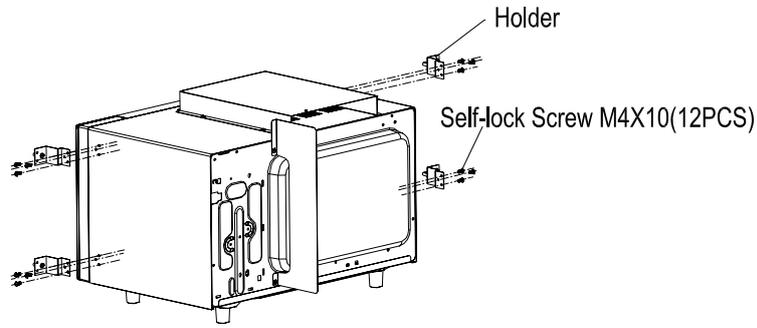

Fig.2
b) Secure holders onto each side housing with self-lock screws, as shown in Fig.2.